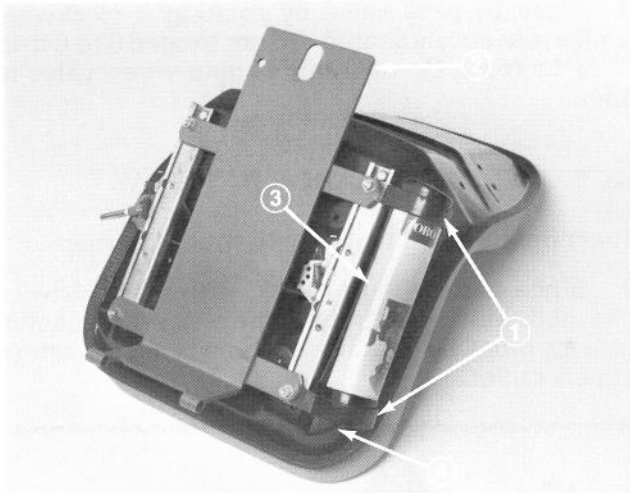

Figure 7
4. Mount seat support to threaded studs on seat slide channel and secure in place with lockwashers and nuts (Fig. 7).
5. Secure (2) R-clamps to right side of seat bottom with (2) capscrews supplied in kit. Install manual tube into R-clamps, insert manual into tube and place cap over tube end (Fig. 7).